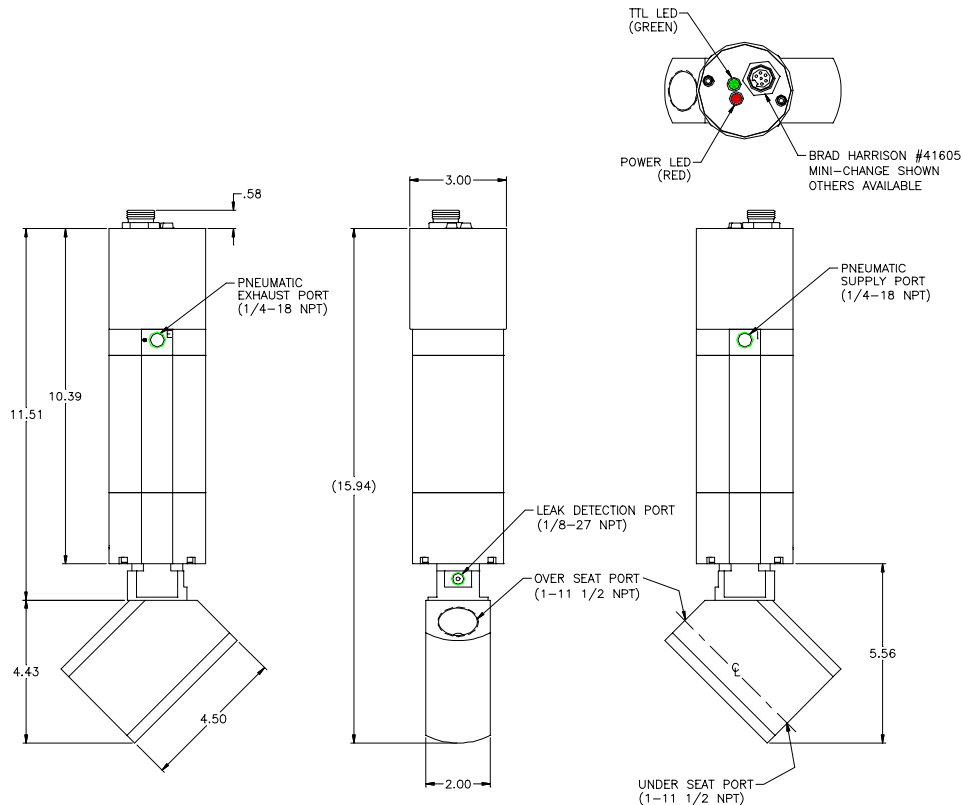

FIGURE 1
1. A typical 20 micron (minimum 40 micron) in-line filter is recommended on the pneumatic inlet port “I” of the FCV valve. (Figure 1)
2. Connect pneumatic supply pressure, 80 to 120 psig, to the inline filter on the “I” port. (Figure 1)